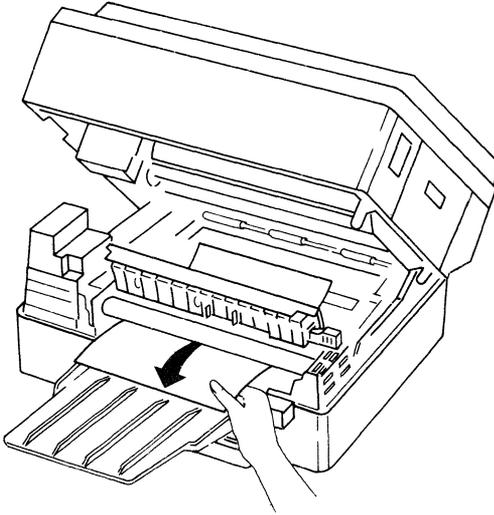

Figure 5: The Fixing Assembly Area
4. If the paper jam has not been cleared, as a last resort check for the jam under the green fixing assembly cover (Figure 5). **Be careful; it may be hot.**